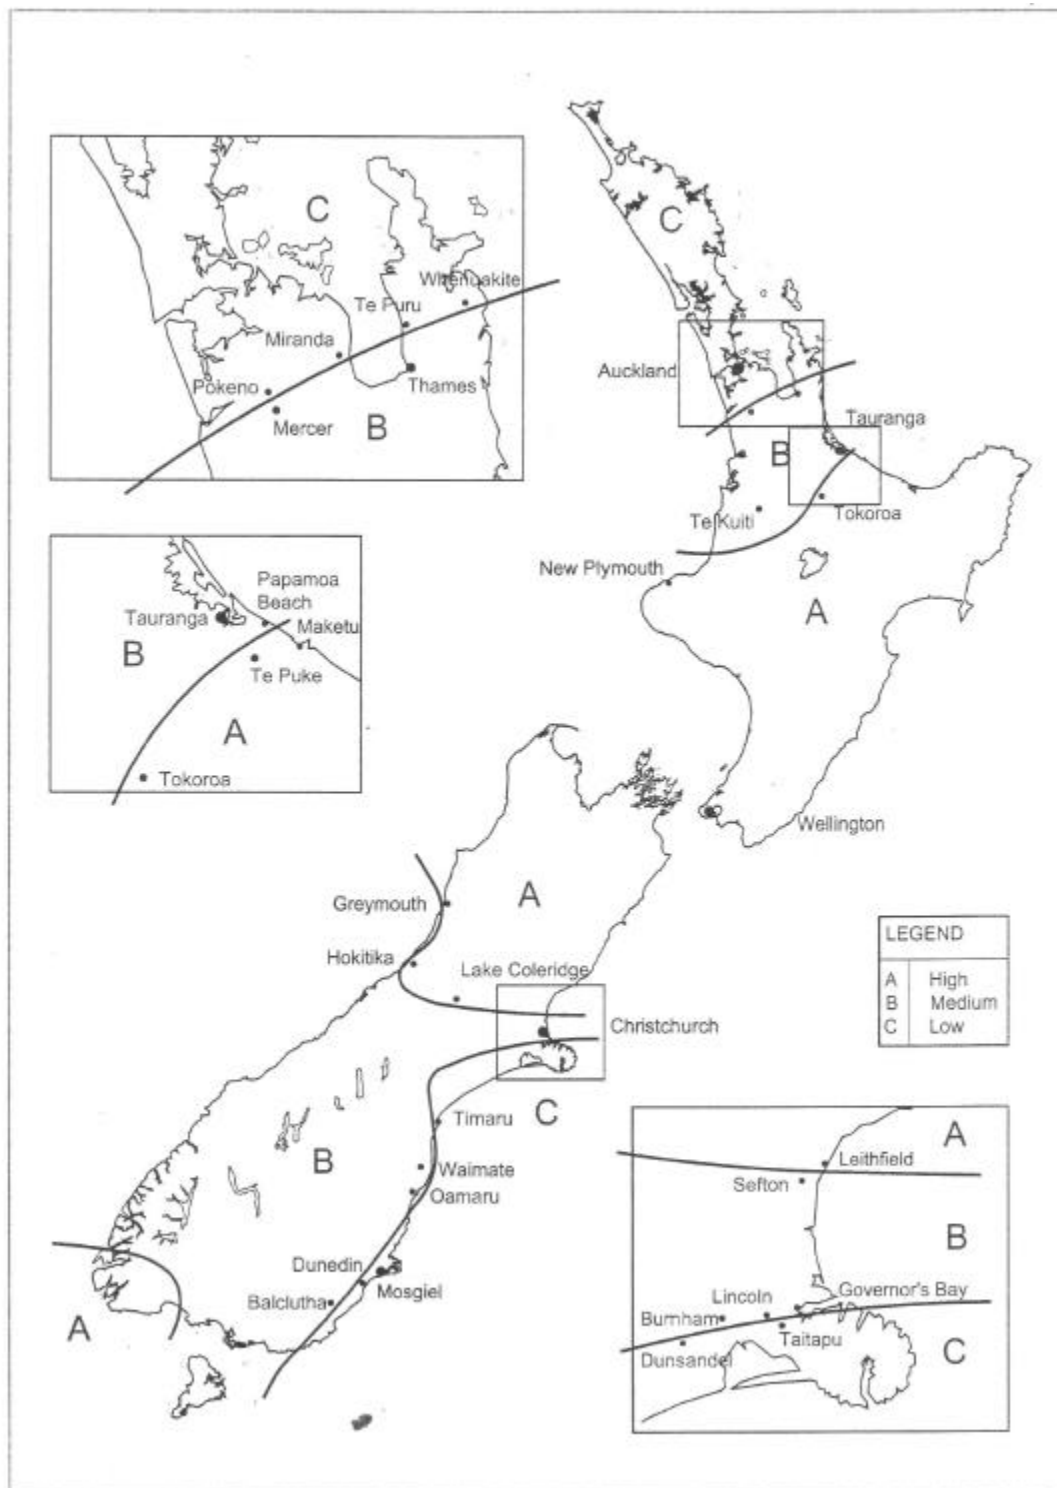

Fig. A3 – NZ Seismic Zones (from NZS3604)
- Seismic Zone** Refer to Fig A3 for New Zealand Seismic Zones. This document provided basic demand for Zone A.